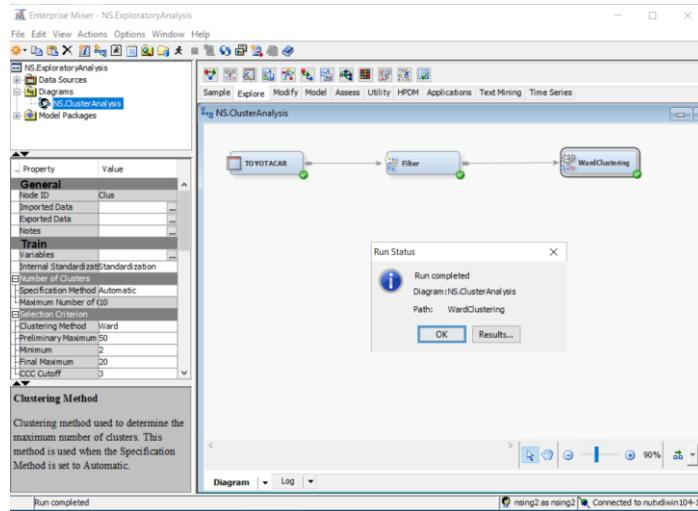

Figure 9
13. Right Click on *Ward Clustering* node and click on “Run” to execute the clustering algorithm. You will receive a dialog box asking you to if you want to run this path? Click Yes and it will take some time to execute the Clustering algorithm. Once the execution is complete you will see a green check mark at the lower right corner of all the connected nodes in this path (Figure 9).
14. After the Run is completed click on “Results” in the “Run Status” dialog box (Figure 9)